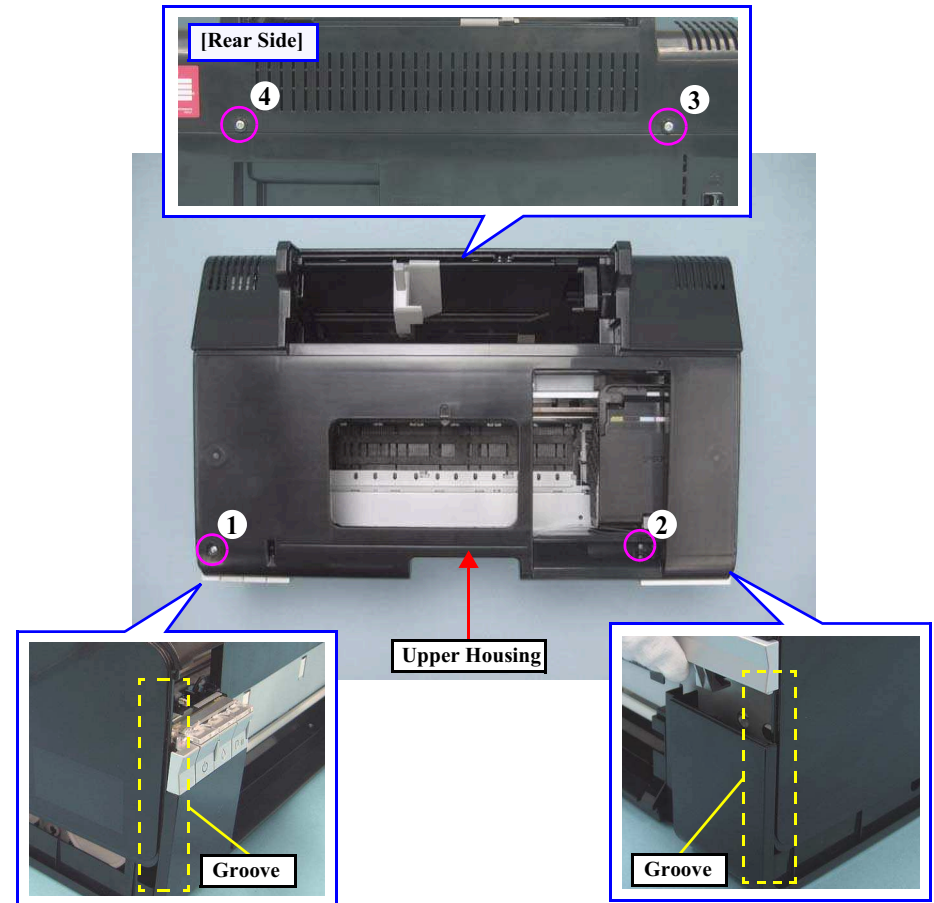

Figure 4-14. Removing the Upper Housing
- Tighten the screws in the order given in Fig.4-14 (p.59).
- Match the ribs of the Upper Housing shown in Fig.4-14 (p.59) with the grooves of the Lower Housing.